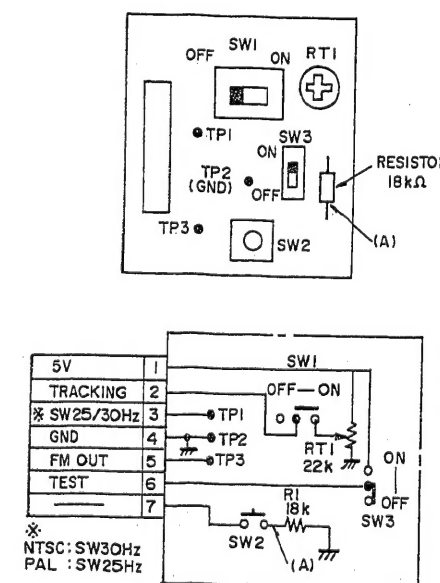

Fig. 6-1
<p>◆ Adjustment procedure</p> <p>Caution: Before performing this adjustment, refer to Fig. 6-1 and modify the ATF-R jig. Connect the ATF-R jig before supplying power.</p> <p>1) Load an alignment tape that has been completely rewound. Press the PLAY button and hold it, then set the POWER switch to VIDEO position.</p> <p>2) Connect an oscilloscope to TP3 on the ATF-R jig.</p> <p>3) Synchronize the oscilloscope with TP1 (SW25/30) on the ATF-R jig.</p> <p>4) Set the oscilloscope to (+) slope.</p>
Caution: Before performing this adjustment, refer to Fig. 6-1 and modify the ATF-R jig.
6. MODIFICATION TO ATF-R JIG (Fig. 6-1)